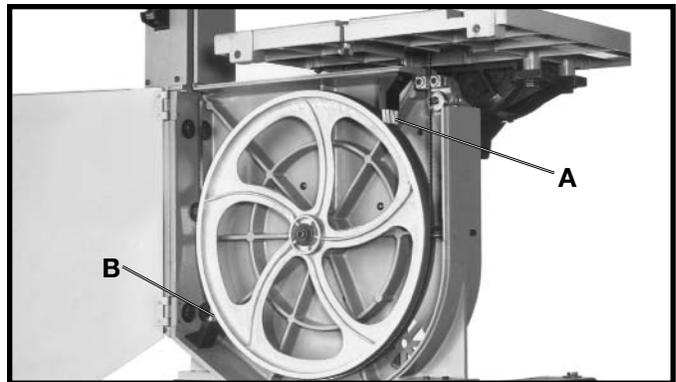

Fig. 31
Two wheel brushes (A) and (B) Fig. 31, are provided to keep the blade and tires clean and free of any build-up of chips. Brush (A) cleans the tire and brush (B) cleans the blade. Adjustment of the brushes can be made by loosening the mounting hardware and adjusting the brushes accordingly.